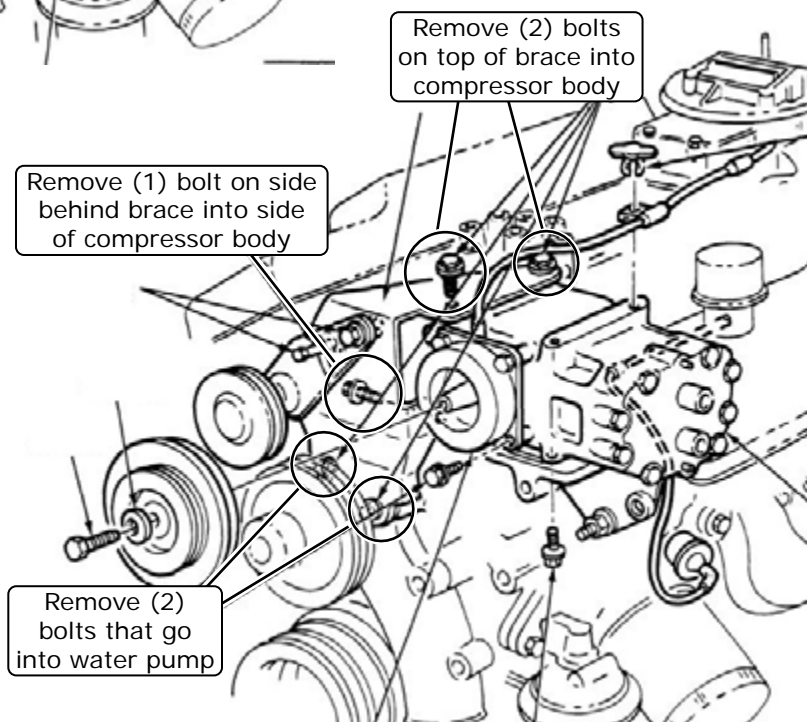

Figure 2
5. To remove the OEM compressor from the mounting bracket, first remove the brace assembly. Remove (2) bolts on top of the brace into the compressor body, (1) on the side behind the brace into the side of the compressor body and (2) into the water pump (See Figure 2, below). Reinstall the bolts back into the water pump.
2. Slide the (3) .750" OD x .482" ID x 4.750" length spacers over the bolts and into the compressor bracket (See Figure 2, below).